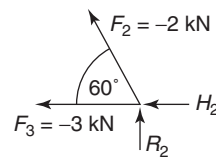

Figure 4.33
Consider next joint (3), see Figure 4.33.